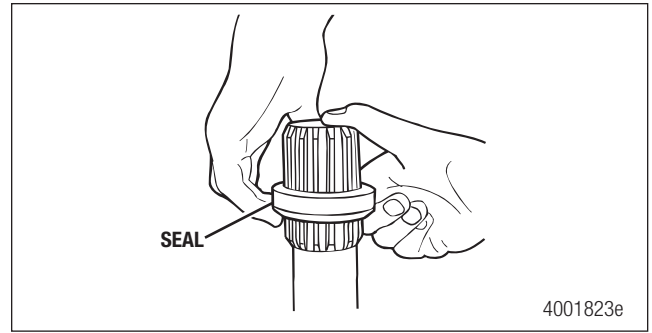
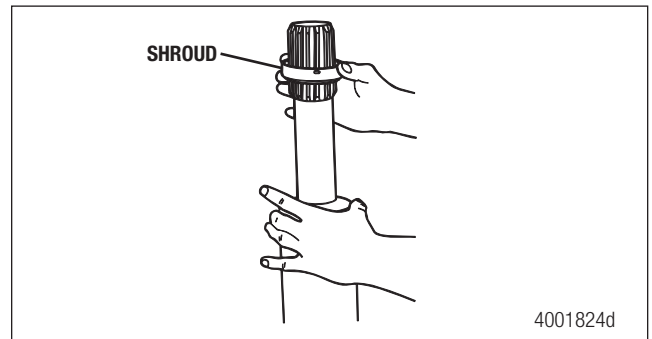

Figure 6.6
Figure 6.7
5. Remove the seal and shroud. Figure 6.6 and Figure 6.7.